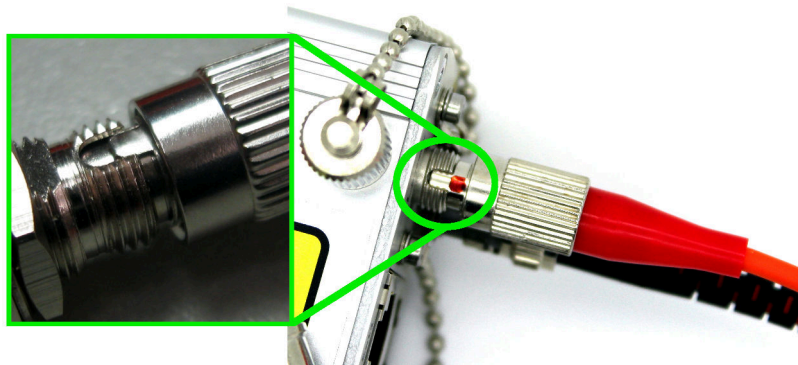

Figure 21: FC fiber connector alignment
5. Plug in the FC laser supply connector (red bend protection) and tighten its nut. Make sure that the connectors key slides into the corresponding notch, Figure 21 for the correct alignment.